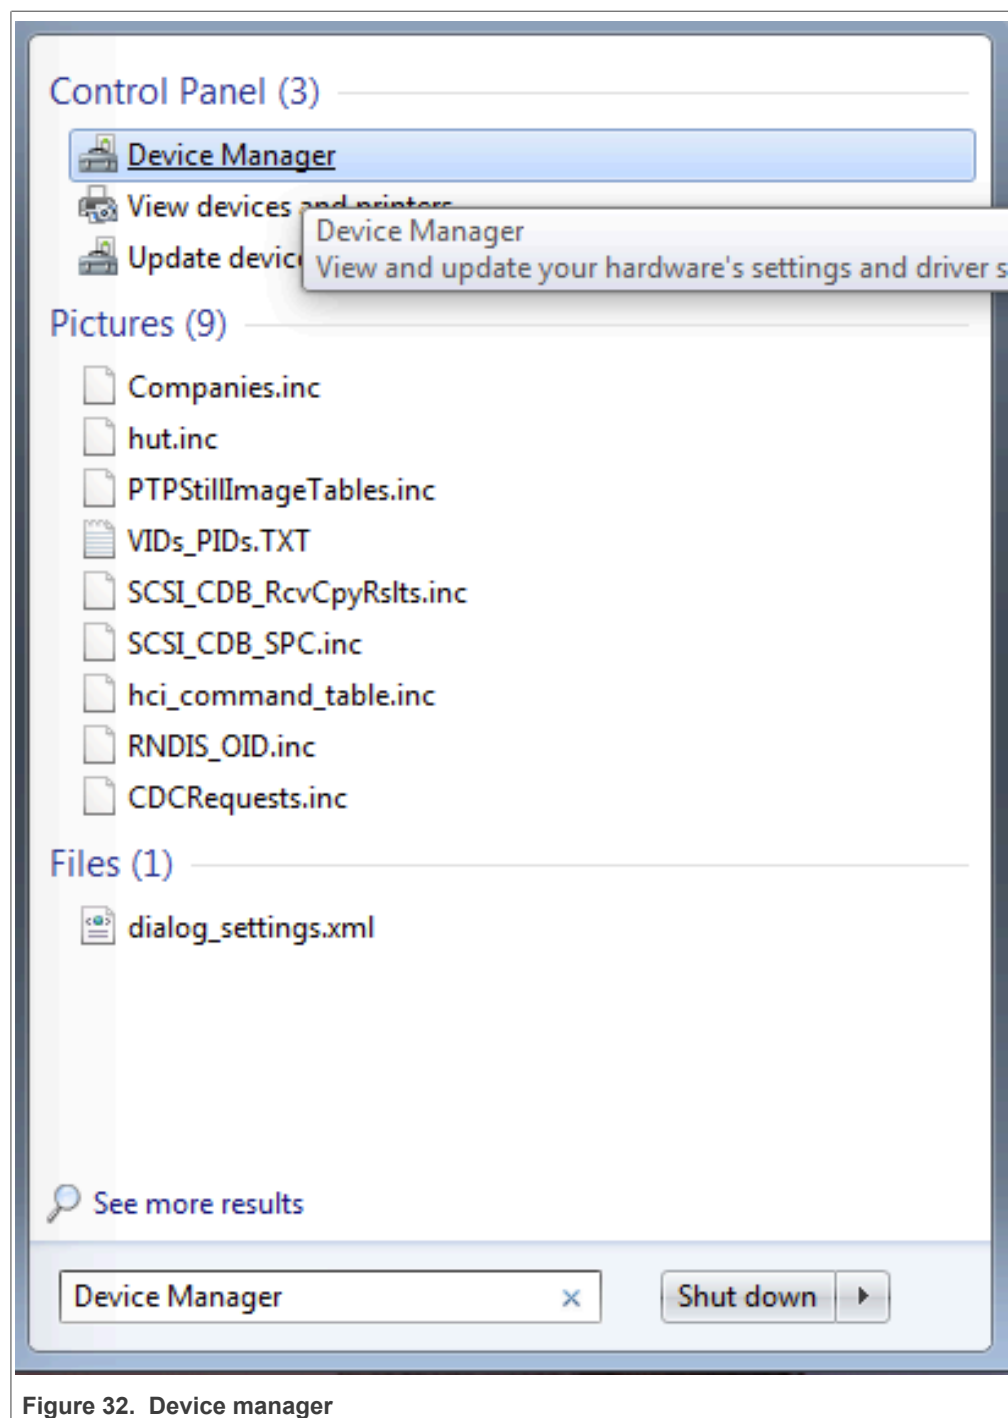

Figure 32. Device manager
1. To determine the COM port, open the Windows operating system Device Manager. This can be achieved by going to the Windows operating system Start menu and typing **Device Manager** in the search bar, as shown in Figure 32.